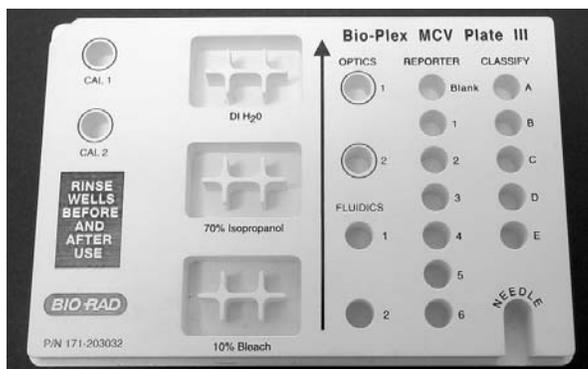

Fig. 17. MCV plate III.
1. Fill the maintenance, calibration, and validation (MCV) plate (Figure 17) with deionized water and 70% isopropyl alcohol in the appropriate wells.